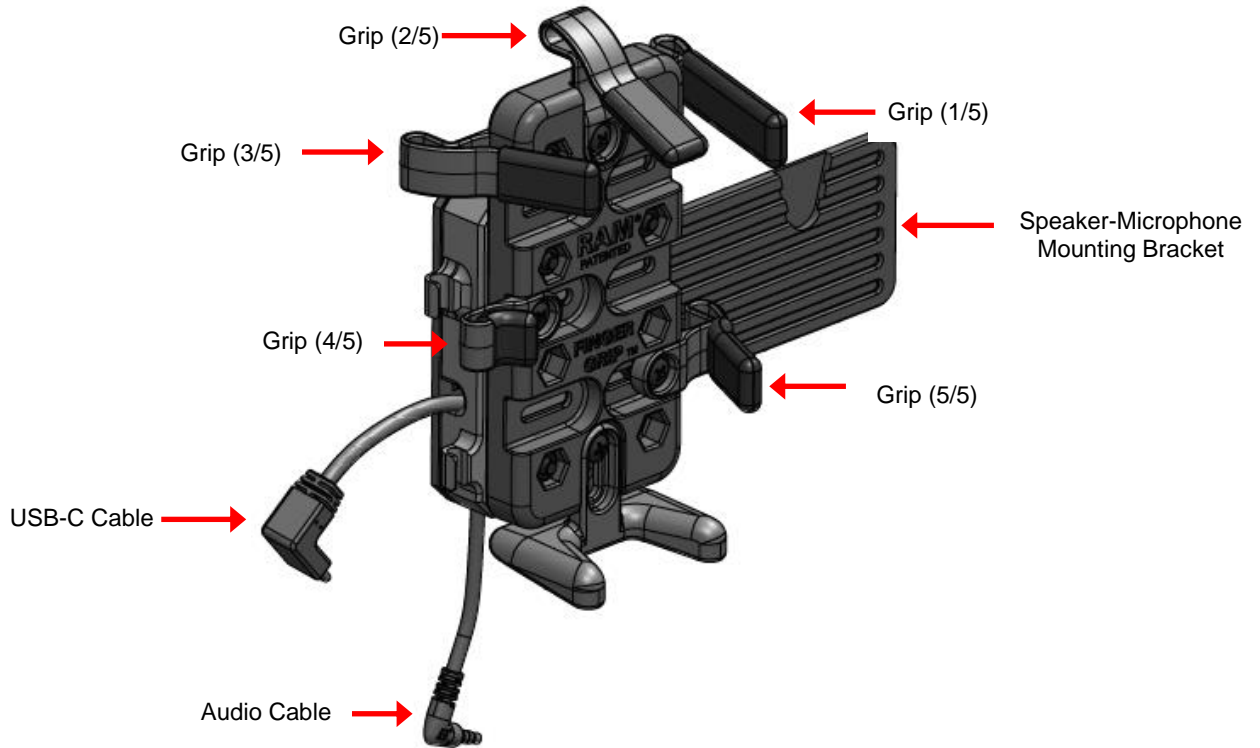
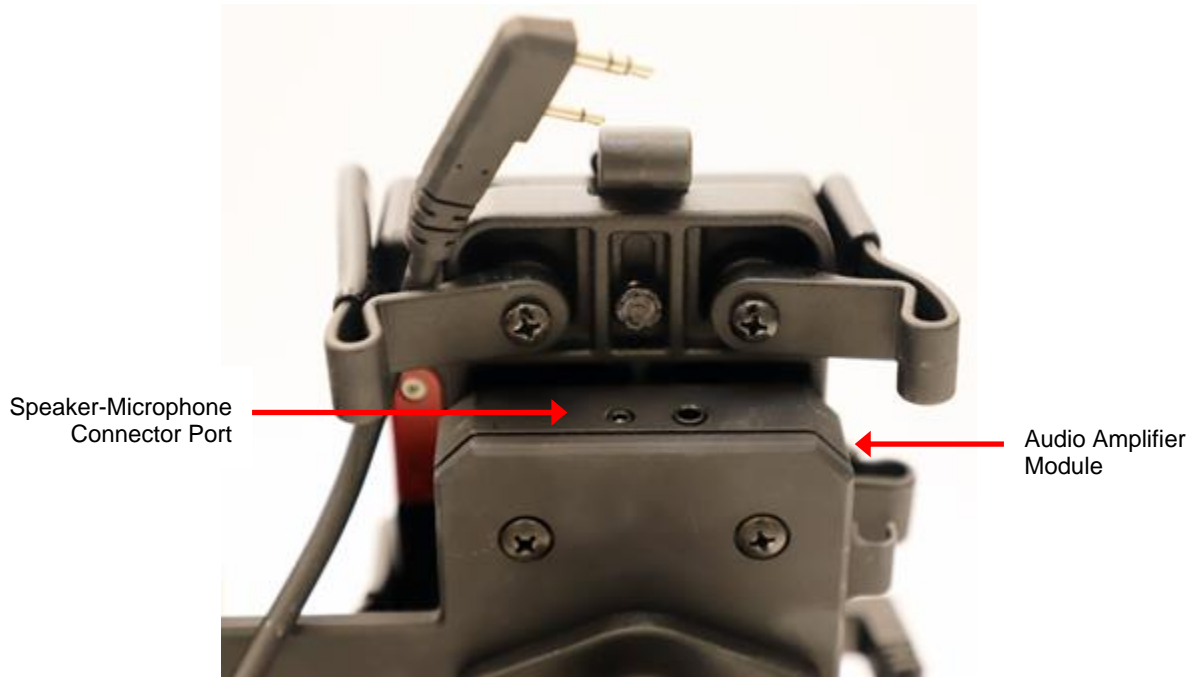
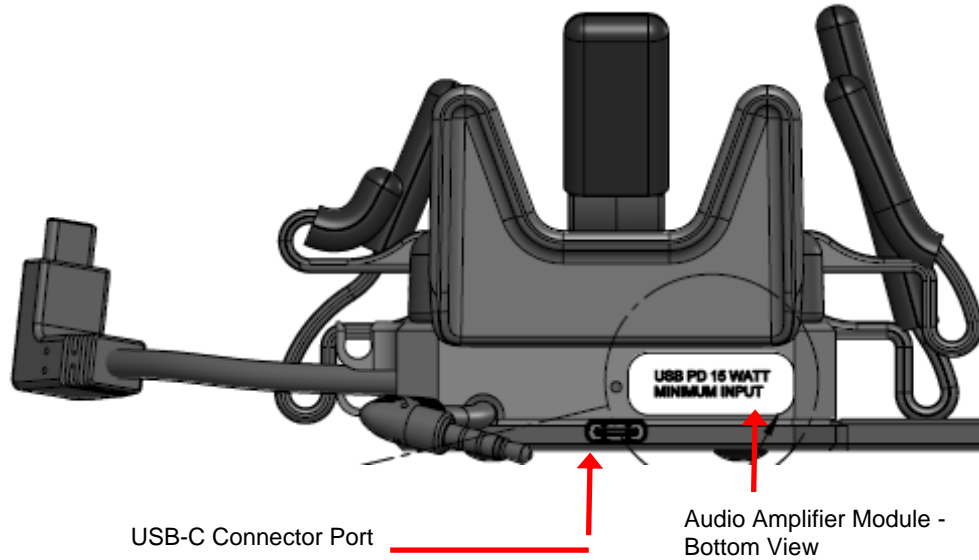
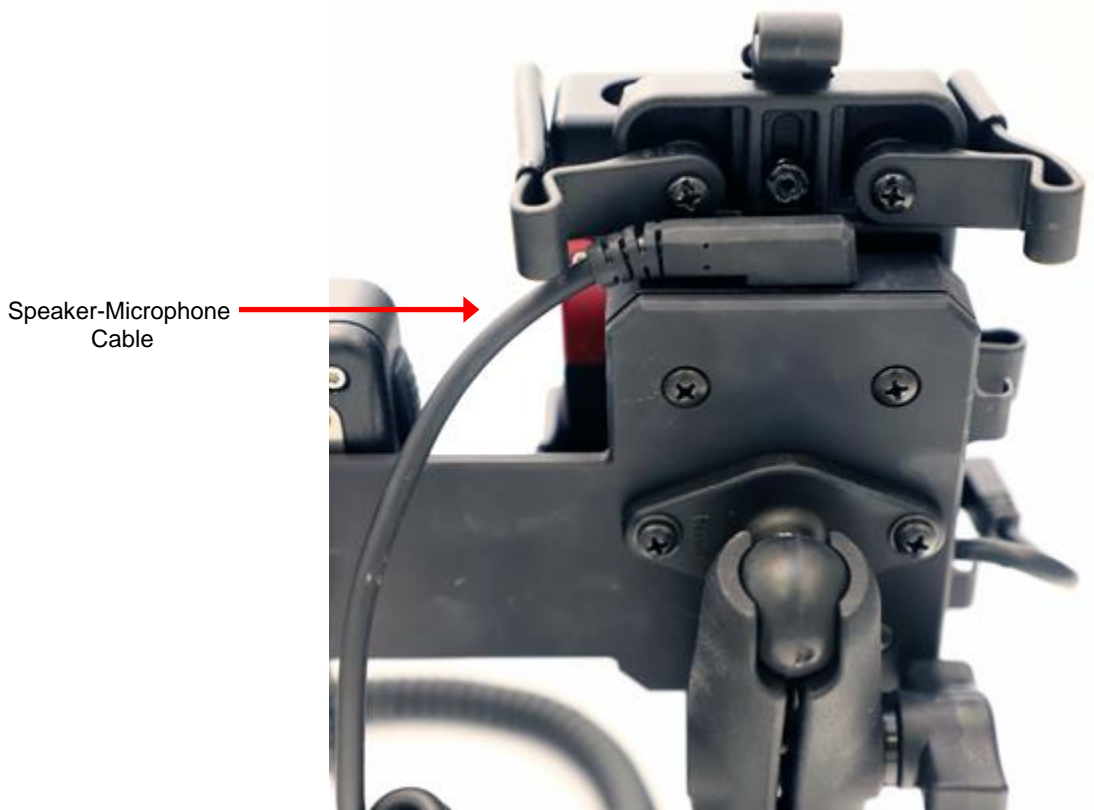

Figure 125: Cradle Assembly – Front View
Figure 126: Cradle Assembly – Top View
Figure 127: Cradle Assembly – Bottom View
Figure 129: Audio Amplifier Module Top View: Speaker-Microphone Cable Connected to Audio Amplifier Module
The Cradle assembly includes the following components (see Figure 125, Figure 126, and Figure 127):
The Cradle body has five (5) grips that securely holds the SHOUT sp device in the Cradle. The SHOUT sp device wedges in and out of the Cradle body by flexing the grips (see **Figure 125**).
- Provides power charging to the mounted SHOUT sp device when the USB-C cable from the Audio Box is attached to mounted SHOUT sp device USB-C connector port, and when a USB-C charging power cable is connected to the Audio Amplifier Module USB-C connector port with power applied. (See **Figure 125 through Figure 129**).
NOTE: (See **Figure 125 through Figure 129**).
The Handheld Speaker-Microphone is a waterproof speaker microphone with a PTT button for two-way communication (**Figure 131**). The Handheld Speaker-Microphone 3.5 mm cable connects to the Audio Connector port on top-side of the Audio Amplifier Module (see **Figure 129**). The Mount Clip located on the Backside of the Handheld Speaker-Microphone is a spring-loaded clip that allows you to position-lock the Handheld Speaker-Microphone onto the notch groove on the Speaker-Microphone bracket (Figure 132). The Handheld Speaker-Microphone features include: